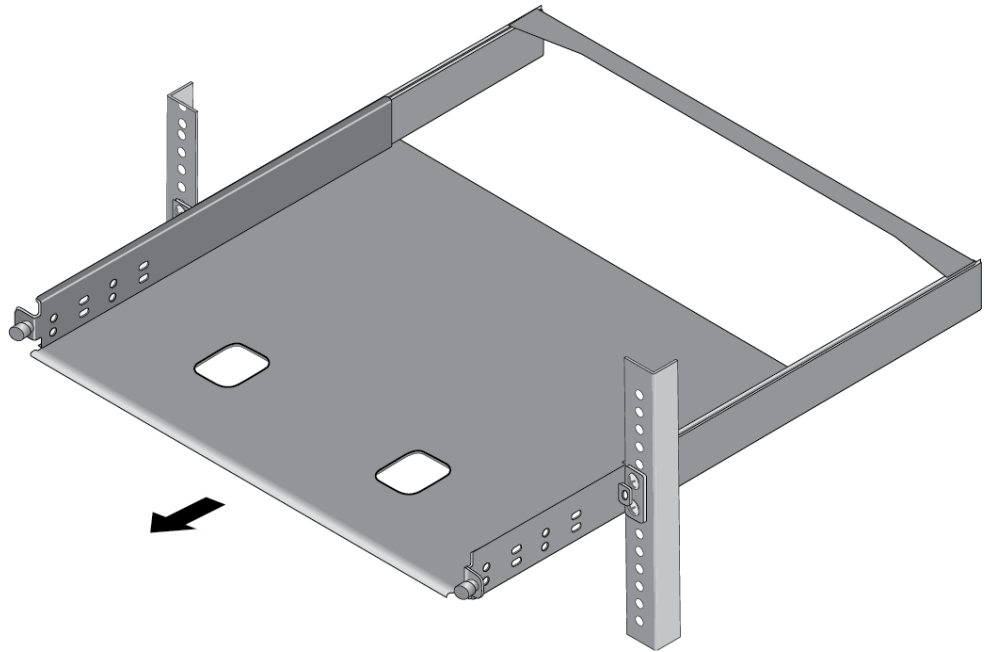

Figure 58. Sliding Out the Bracket of the RKMT-J15
3. Slide out the bracket tray. Refer to Figure 58.